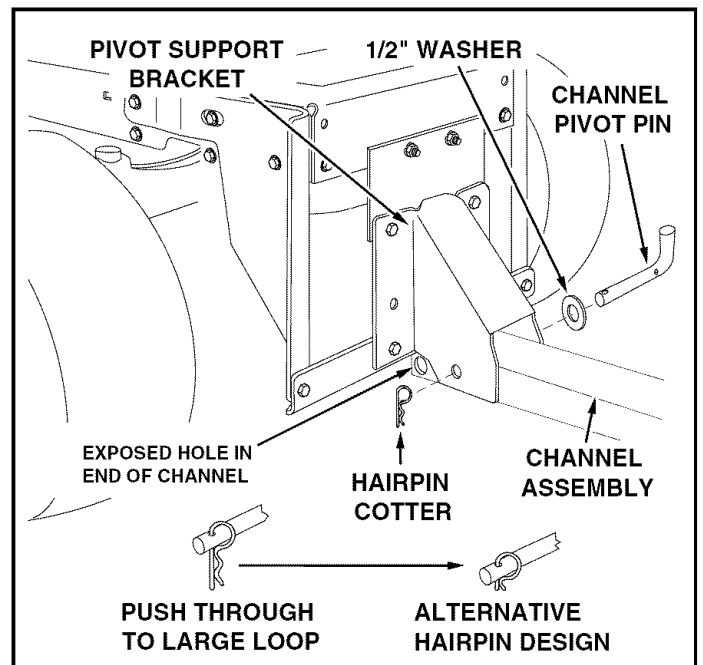

FIGURE 14 (Right Hand Side View)
- Assemble the 1/2" washer onto the channel pivot pin. See figure 14.
- Attach the channel assembly to the tractor by placing the end of the channel assembly up inside the pivot support bracket on the tractor. Align the hole in the pivot support bracket with the second hole from the end in the channel assembly. Insert the channel pivot pin through the aligned holes from the left side and secure with a hairpin cotter pushed all the way through to the loop end. See figure 14.